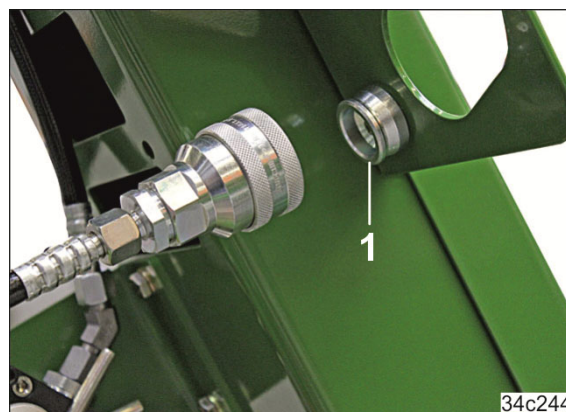

Fig. 138
5. Push the hydraulic socket onto the protective cap (Fig. 138/1). The protective cap is secured to the hose cabinet and protects the socket against soiling in the parking position.